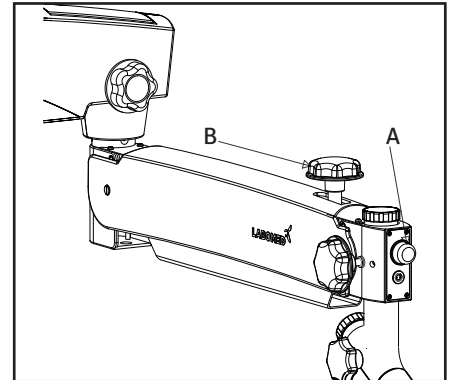

Fig 10
This knob is located at the front of the suspension arm (see A in Fig. 10). The brightness of the field of view can be adjusted as desired using the intensity control knob.
This knob (see B in Fig. 10) locks the movement of the swivel arm at the desired position by turning it clockwise.
3. Lock the up and down movement of the suspension arm using the locking knob (see B in Fig. 10 above) after focusing on the area of interest.